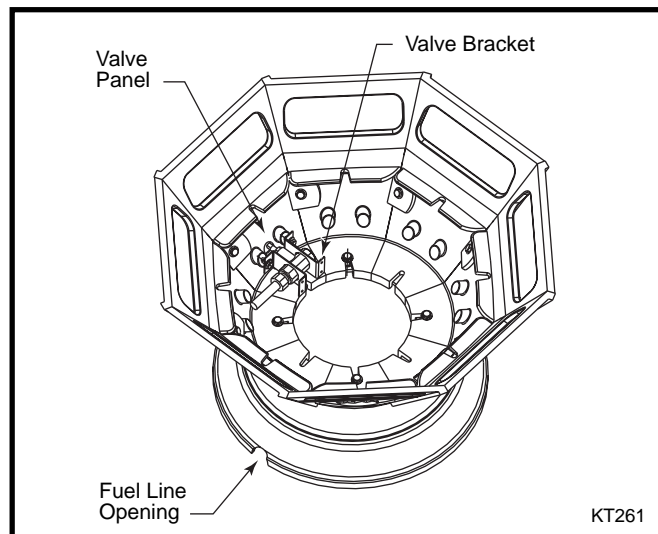

Fig. 5 Secure Villa to base.
3. Invert the base and locate the Villa on the base. Orient the Villa so the 3/4" diameter hole in the Villa's valve panel is facing 90° from the fuel line opening in the base. Replace the fasteners, nuts and washers removed in step 1. Be sure to use washers under both the fastener heads and nuts. Tighten the fasteners tight, but do not overtighten. (Fig. 5)
4. Remove the four (4) sheet metals screws that hold the valve bracket to the leg support on the GPF and discard.
the valve and bracket assembly to the villa using the 1/4-20 x 3/8" fasteners and washers removed in Step 2. Reconnect the fuel supply line to the valve and tighten. Feed the fuel line from the gas supply through the fuel line opening in the base. (Fig. 5) Place the octagonal